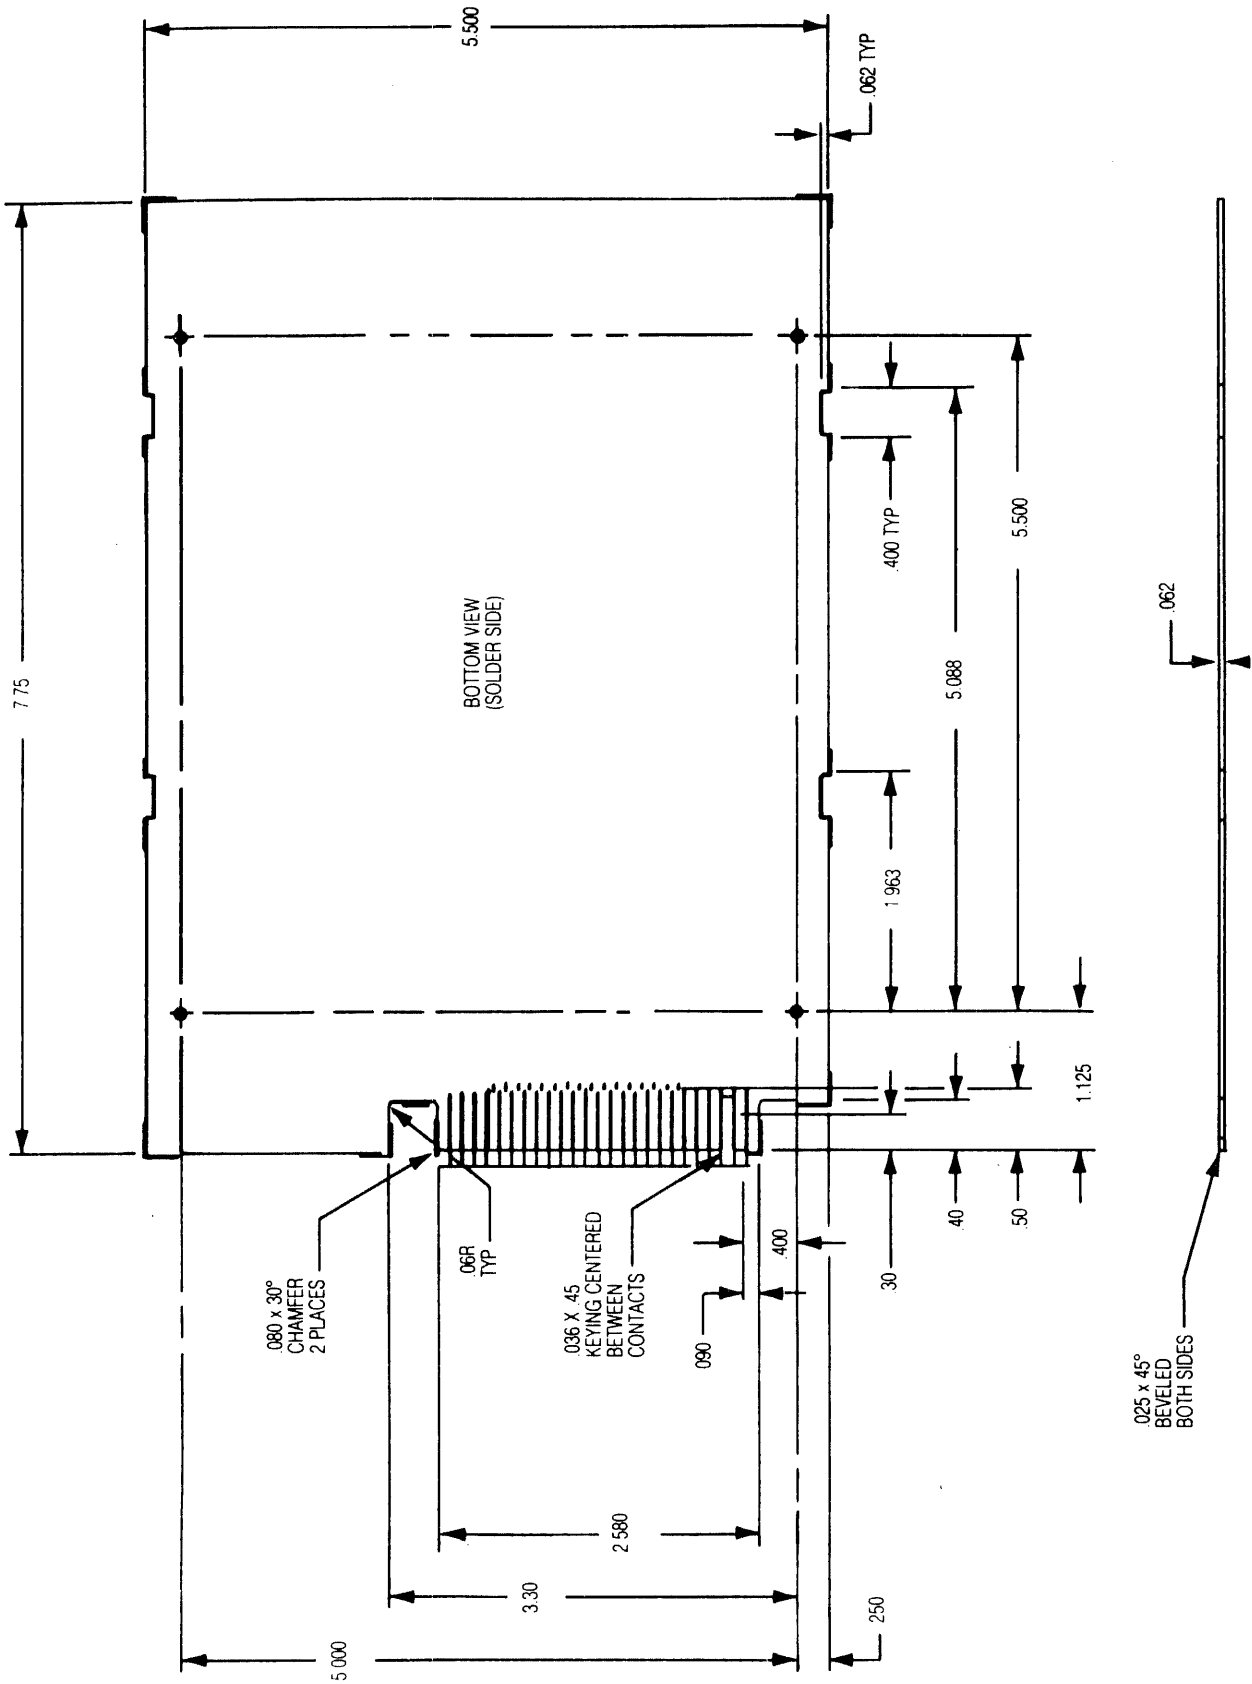

Figure 8.5 Stand Alone Controller Outline Drawing
2. The controller PWB (by itself) can be mounted using the four holes that are provided in the board. See Figure 8.5 outline drawing for dimension detail and mounting hole location.